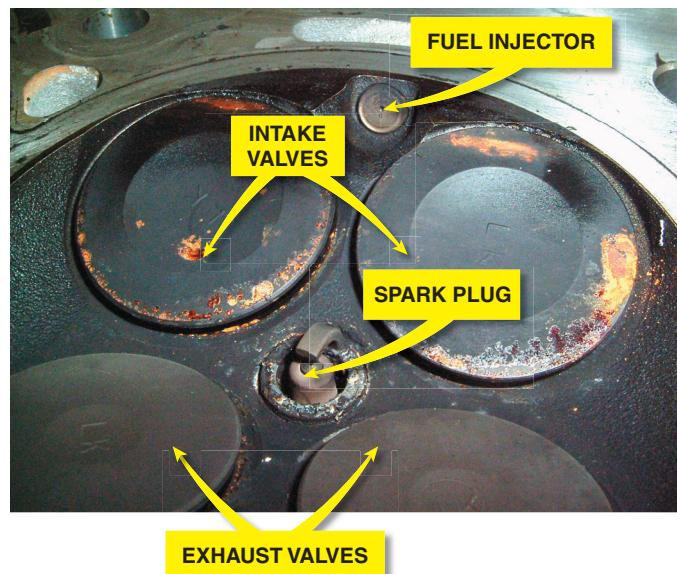

FIGURE 28-10 There may become a driveability issue because the gasoline direct-injection injector is exposed to combustion carbon and fuel residue.
- **On the injector itself.** Because the injector tip is in the combustion chamber, fuel residue can accumulate on the injector, reducing its ability to provide the proper spray pattern and amount of fuel. Some injector designs are more likely to be affected by carbon than others. For example, if the injector uses small holes, these tend to become clogged more than an injector that uses a single slit opening where the fuel being sprayed out tends to blast away any carbon. ● SEE FIGURE 28-10.